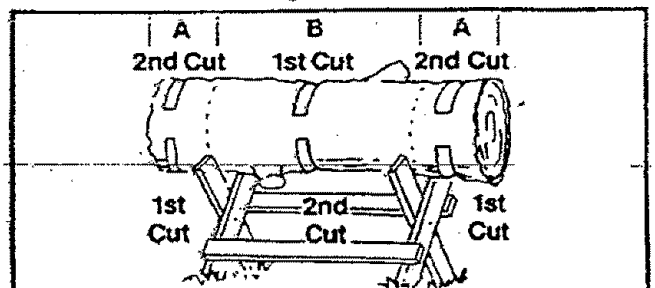

Figure 25
**5. BUCKING — USING A STAND (Figure 25):**